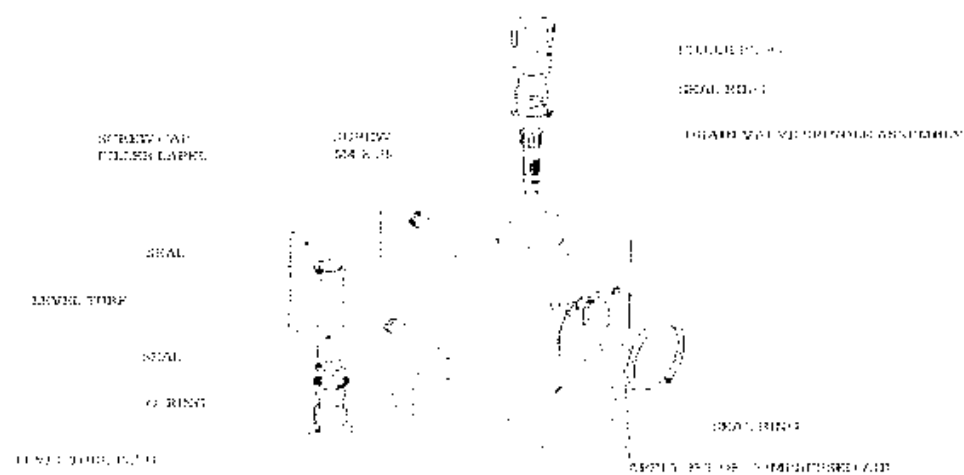

Figure 9 Screw Cap Filler Assembly
2.10.2 Screw Cap Filler Assembly (Figure 9, Page 17)